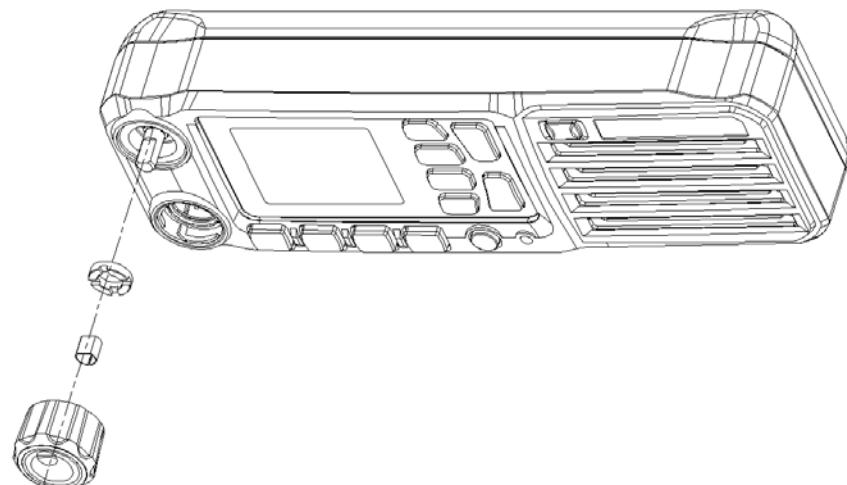

Figure 5.7
- (1) Remove volume knob and snap spring, unscrew M6x0.35 as per figure 5.7.